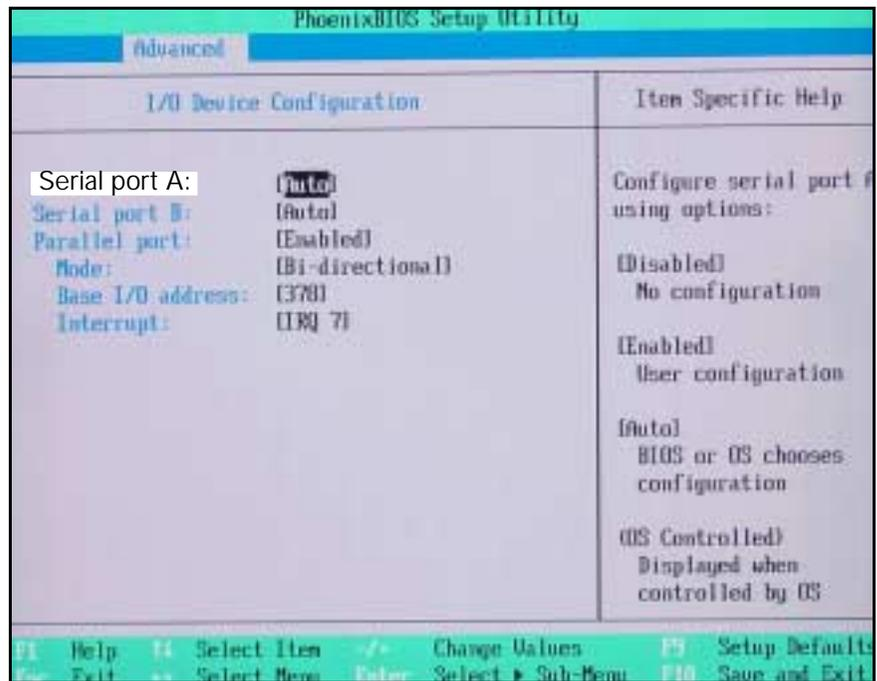

Figure 2-5 I/O Device configuration
15. Verify correct “I/O Device Configuration” settings as shown in Figure 2-5.